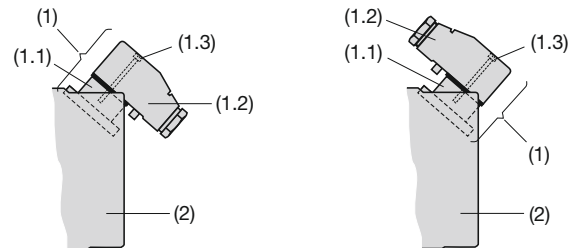

Fig. 1. Rear (2) with plug-in connector (1).
The **plug-in connector** (1) consists of a socket (1.1) mounted on the rear (2) of the transmitter and plug (1.2) on the end of the connecting cable (screw gland PG 11) and 7 screw terminals (wire gauges up to max. 1 mm2). The socket can be mounted so that the cable is routed to either the rear (Fig. 1, left) or the front (Fig. 1, right).